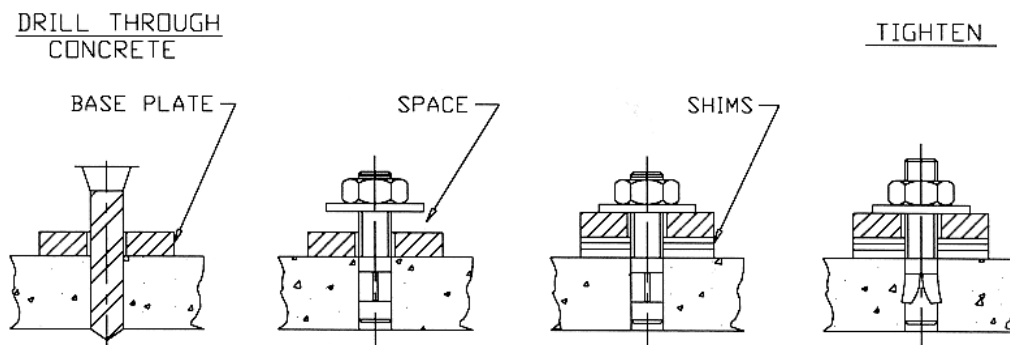

Figure 8 - Anchor Installation
5. After proper levels are attained for both the raised and lowered positions, use a rotary hammer drill and a 5/8" concrete drill bit to drill through the floor in the four (4) anchor bolt location holes on each of the base frames. Make sure that the 5/8" concrete drill is in good condition. Refer to Figure 8.